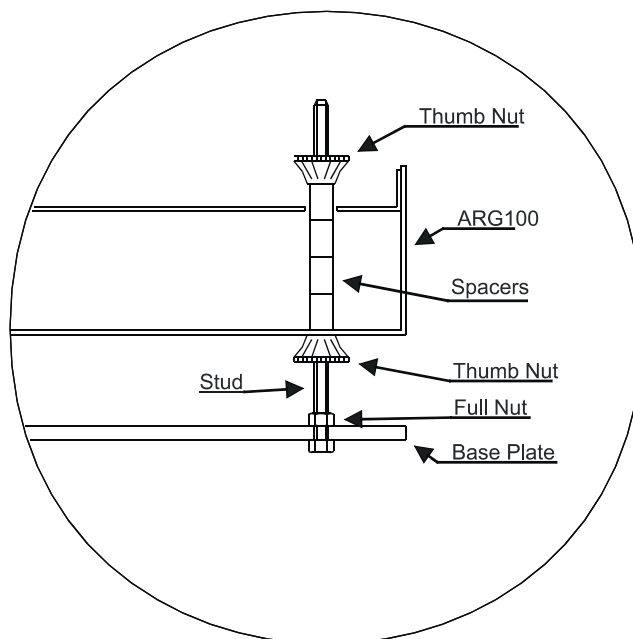

Figure 67 Rain Gauge Attachment
2. Mount the gauge (1) to the upper plate of the stand using the provided hardware. For an example, see Figure 67 on page 81.